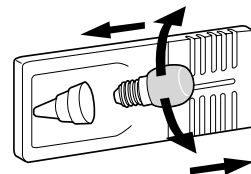

Figure 32
- Replace the bulb (Figure 32).